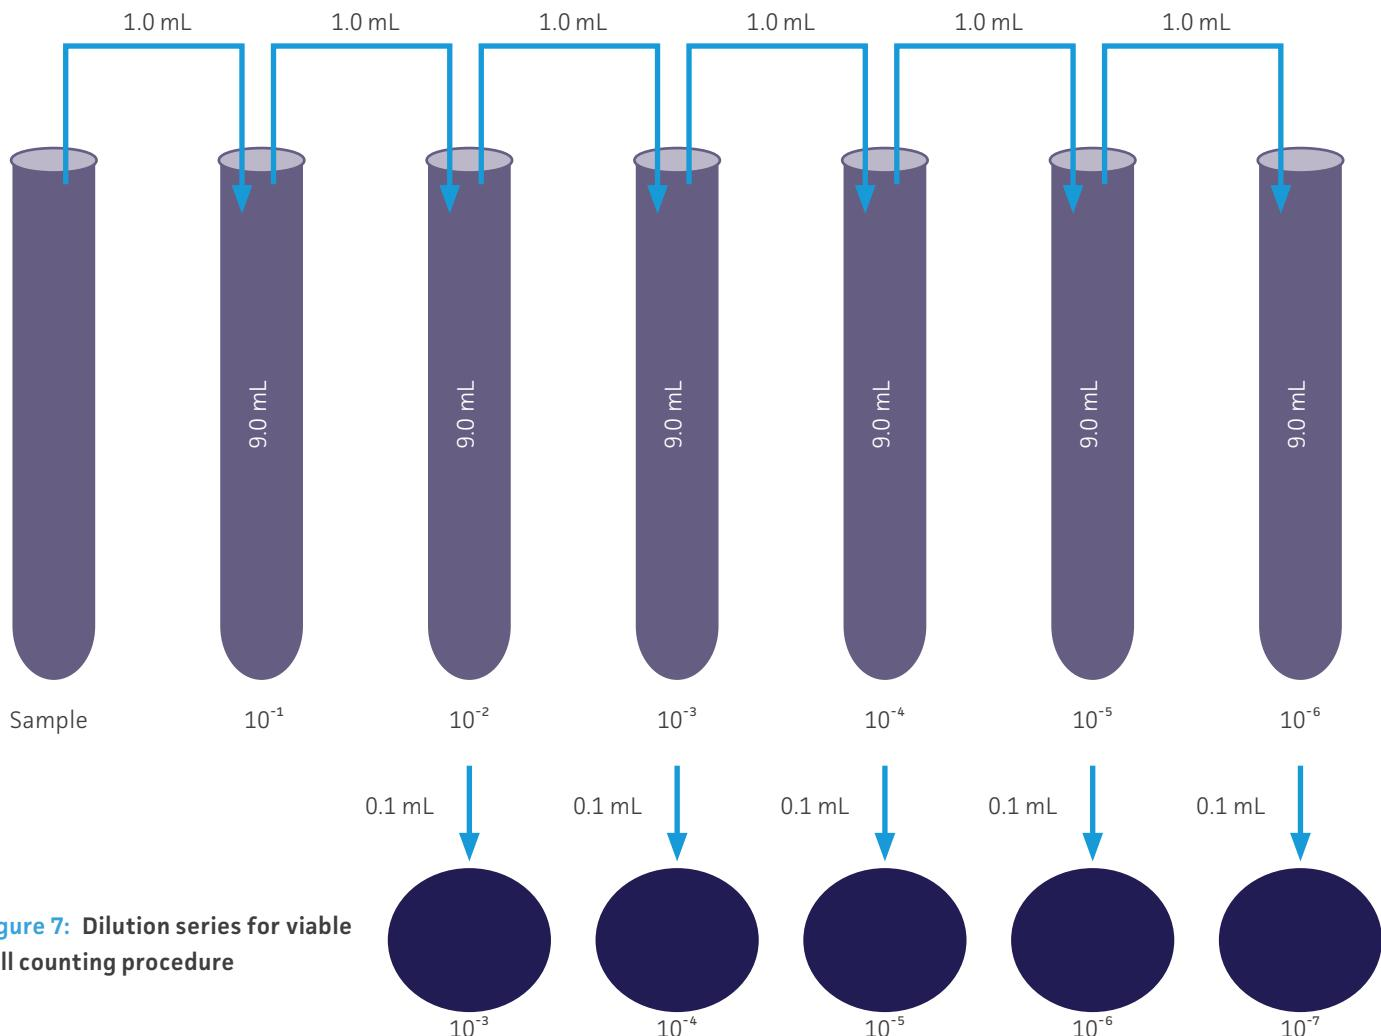

Figure 7: Dilution series for viable cell counting procedure
Following the preparation of a dilution series, each dilution is aseptically plated using the spread plate technique onto several plates consisting of an appropriate agar-based medium, and then grown under optimal conditions. At this point in the procedure, it must be noted that the volume of culture plated should also be factored into the final calculated dilution. For example, if 0.1 mL of culture is plated, it is considered to be a 1:10 dilution. This is because the final cell count is calculated as the number of CFU per milliliter, and 0.1 mL is one-tenth of a milliliter (See: FIGURE 7).
- 1 Label your dilution tubes and agar plates as indicated in FIGURE 7. Ensure that you label two plates for each dilution.